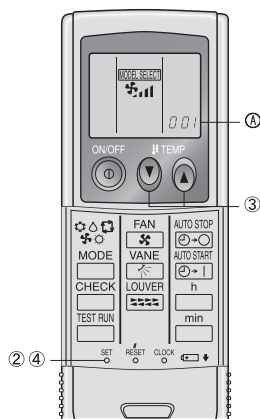

Fig. 6-7
1) Setting (Fig. 6-7)
- ① Insert batteries.
- ② Press the SET button with something sharp at the end. **MODEL SELECT** blinks and Model No. is lit.
- ③ Press the temp. \uparrow \downarrow buttons to set the Model No. If you mistook the operation, press the ON/OFF Ⓞ button and operate again from procedure ②.
- ④ Press the SET button with something sharp at the end. **MODEL SELECT** and Model No. are lit for three seconds, then turned off.